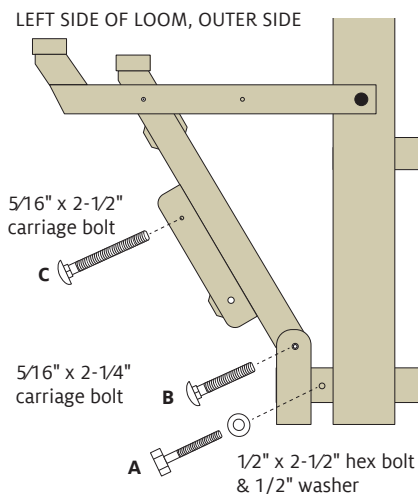

FIGURE 4: INSTALL HARDWARE
8. Place a 1/2" washer on the 1/2" x 2-1/2" hex bolt, and insert the bolt through hole [A] in Figure 4 in the left lower side brace from the outside to the inside of the loom. From inside the loom, install another 1/2" washer on the hex bolt.